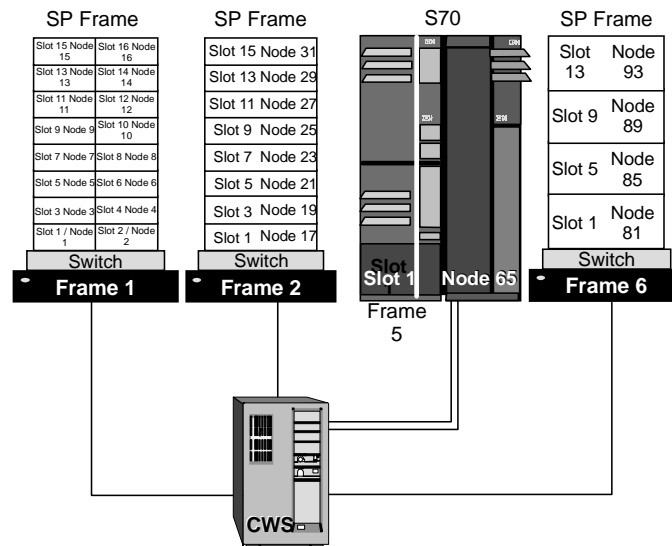

Figure 83. Node Numbering
- Each SP-attached server installed in the SP system subtracts one node from the total node count allowed in the system. However, as the server has frame-like features, it reserves sixteen node numbers that are used in determining the node number of nodes placed after the attached server. The algorithm for calculating the node\_number is demonstrated in Figure 83 on page 130; for further information on the frame numbering issue, refer to Figure 99 on page 156: